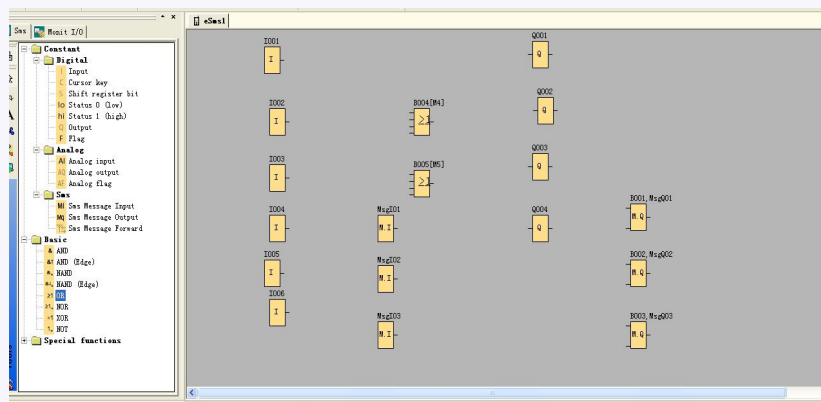

Fig 7.10.1 Place block
E.g.: To complete all the function block of one certain system control, as Fig 7.10.1 shown, put all function modules into the edit program interface.